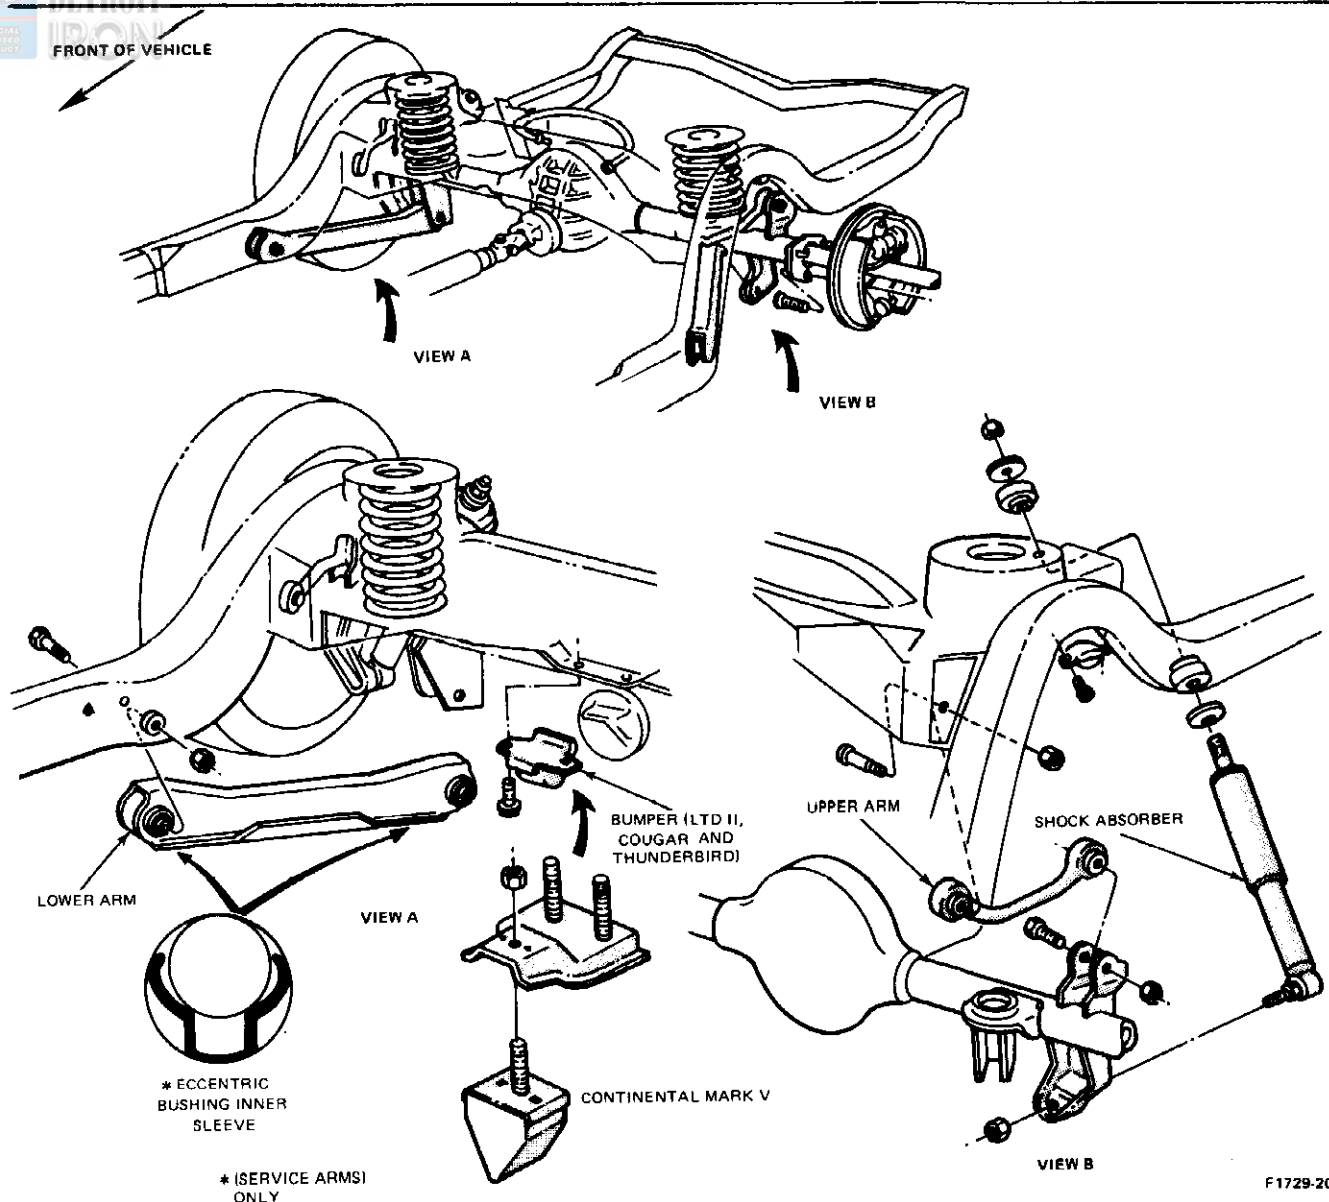

FIG. 1 Rear Suspension—LTD II/Cougar/Thunderbird/Continental Mark V
3. Remove the self-locking attaching nut, and disconnect the shock absorber lower stud from the mounting bracket on the rear axle housing (Figs. 1 and 2).